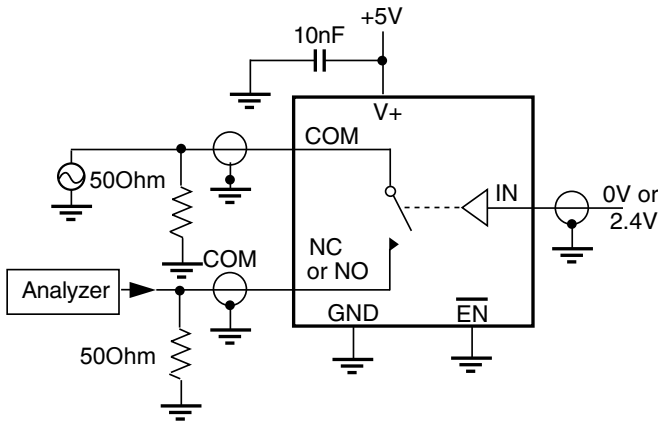

Figure 3. Off Isolation
- Off Isolation = $20\log_{10} [V_{COM} / (V_{NO} \text{ or } V_{NC})]$. See figure 3.